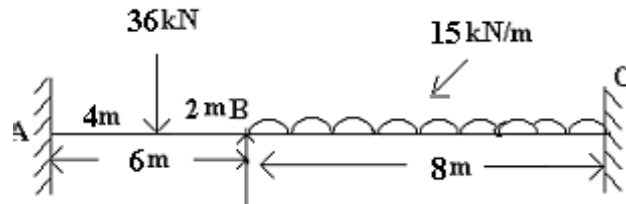

Figure 3:
6. Analyse the two span continuous beam ABC Loaded as shown in Figure 3 The ends A and C are simply supported. Use moment distribution method. Sketch the B.M. and S.F. diagram. [16]